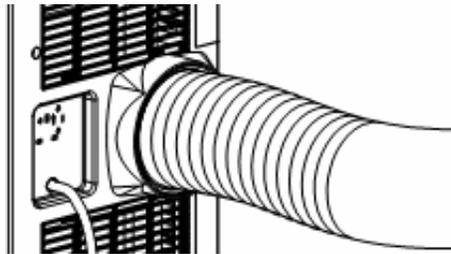

FIGURE 2
- Spin adapter into exhaust pipe first, then spin the exhaust pipe into exhaust connector (counter-clockwise) (figure 2)